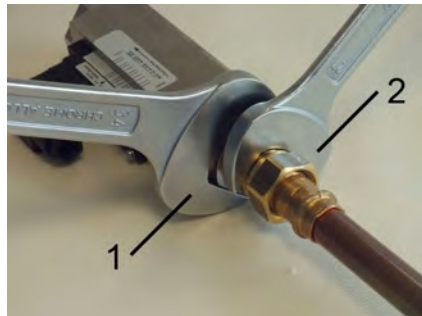

Fig. 11: Screw in the device
2. ➔ Fasten the adapter union of the pipeline with an appropriate spanner (Fig. 11/2). When doing so, lock the process connector in place to prevent slip, using a suitable spanner. (Fig. 11/1)